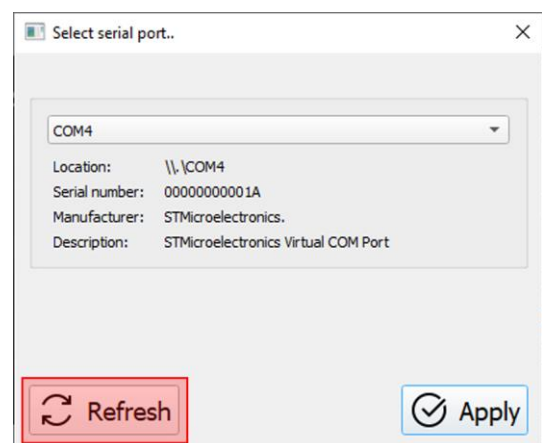

Figure 3.3 - Updating the list of PC ports
3.6. If there is no required port in the list of virtual ports, click the **Update** button, as shown in Figure 3.3.